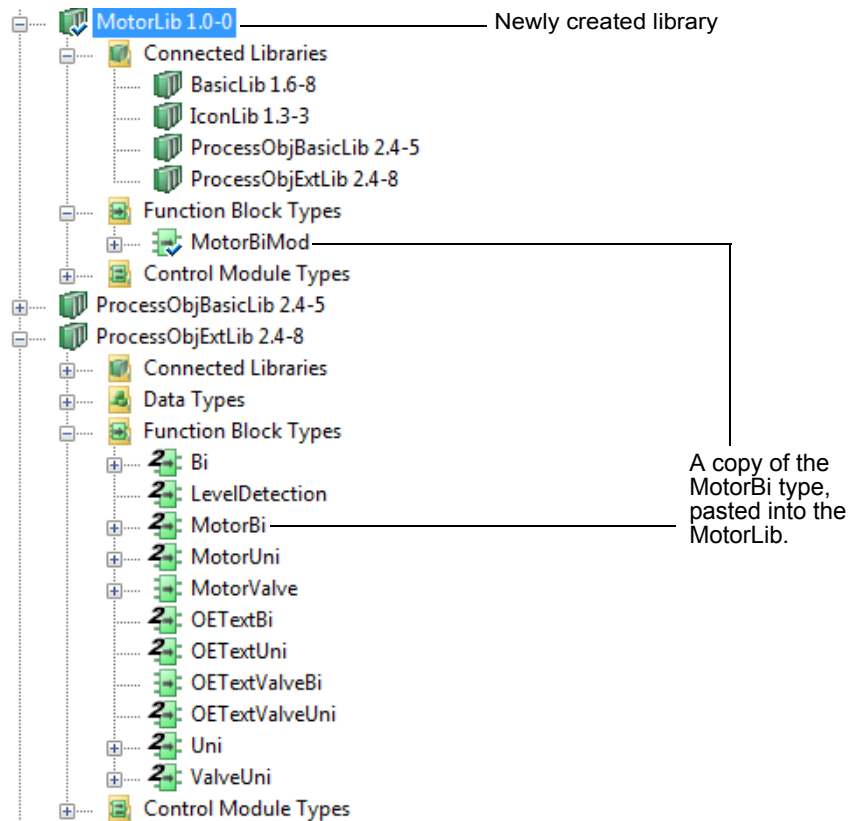

Figure 167. Copying of object types to a new library, MotorLib
12. Select the control module type that is to be replaced, under the process object type, in your own created library (MotorLib), in this example, FaceplateMotorBiMod under MotorBiMod. See Figure 167.